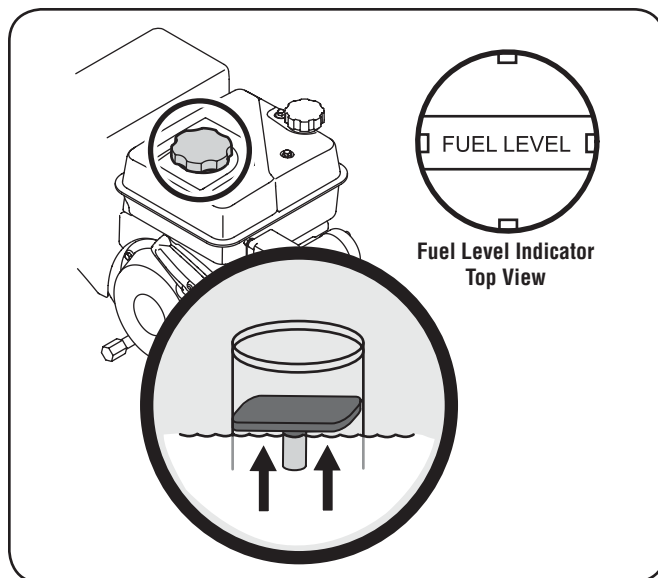

Figure 3-8
2. A fuel level indicator is located in the fuel tank. Fill tank until fuel reaches the fuel level indicator, Fig. 3-8. Be careful not to overfill.